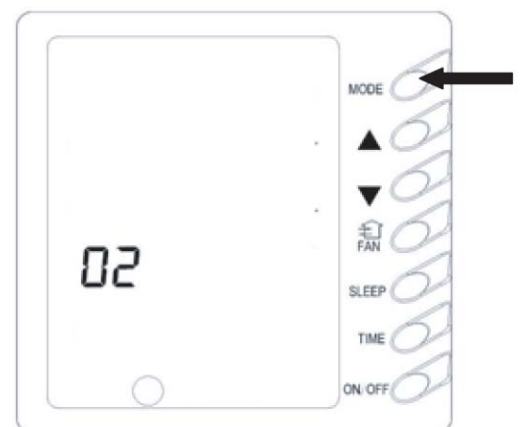

Fig 10
9) MEMORY function setup (Fig. 10)